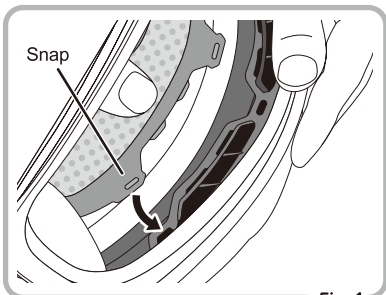

Fig. 1
- ① Attach the snap at the temple areas as shown in Fig.1.